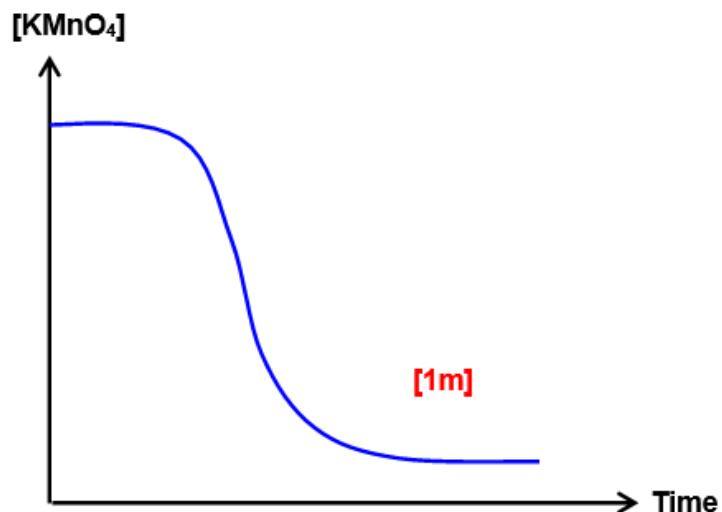

Fig 4.2
- (iii) Using the information given in 4(d)(ii) and reaction 6, sketch, on Fig. 4.2, the graph you would expect to obtain if the experiment was conducted without the addition of $\text{Mn}^{2+}(\text{aq})$ solution. [1]